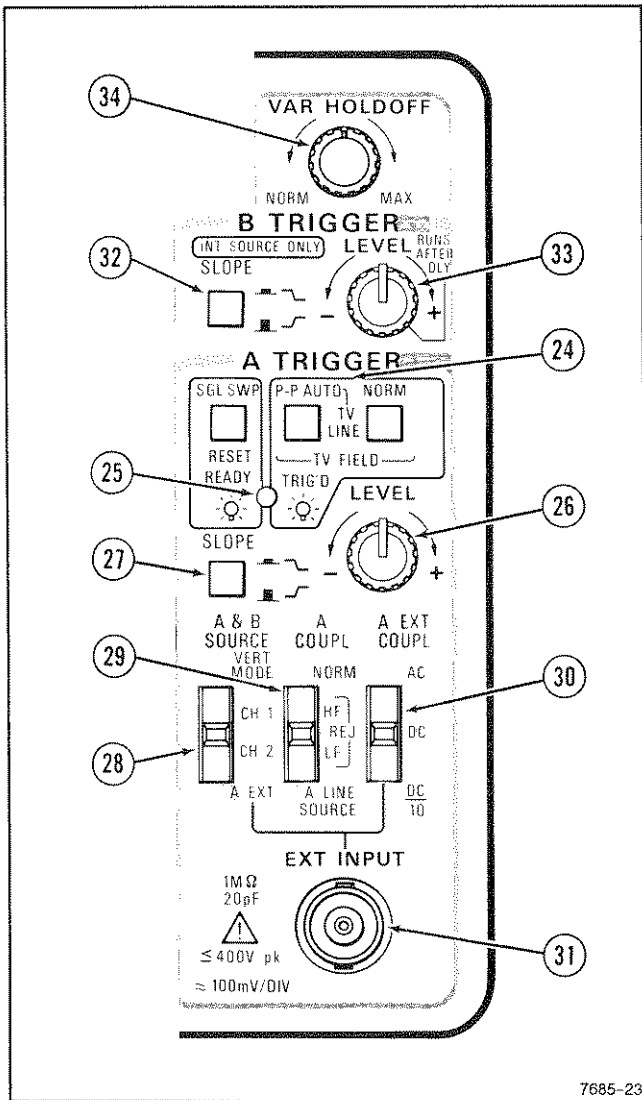

Figure 2-6. Trigger controls, connector, and indicator.
Refer to Figure 2-6 for location of items 24 through 34.